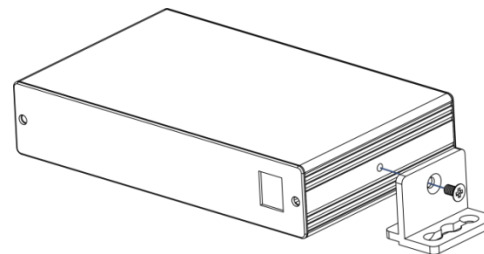

Figure 4: Attaching the Brackets
2. Attach the pair of brackets. To do so, fasten a bracket to each side using the M3x8 screw that is already attached to each side (see Figure 4).